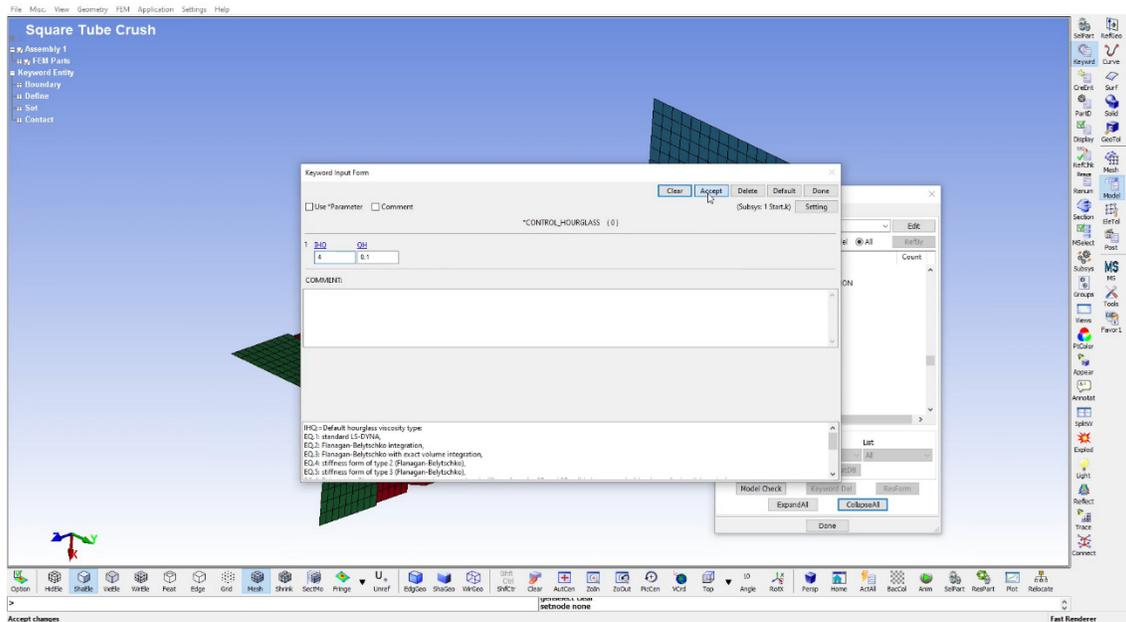

Figure 27: Hourglass controls
specified either for all parts in a model or for an individual part. Use `*CONTROL_HOURLGLASS` to define it for all parts in the model. Set the hourglass formulation (IHQ9 to 4 (i.e. stiffness form of type 2 (Flanagan-Belytschko))) and the factor (QH) to 0.1 (i.e. default), as shown in Figure 27.